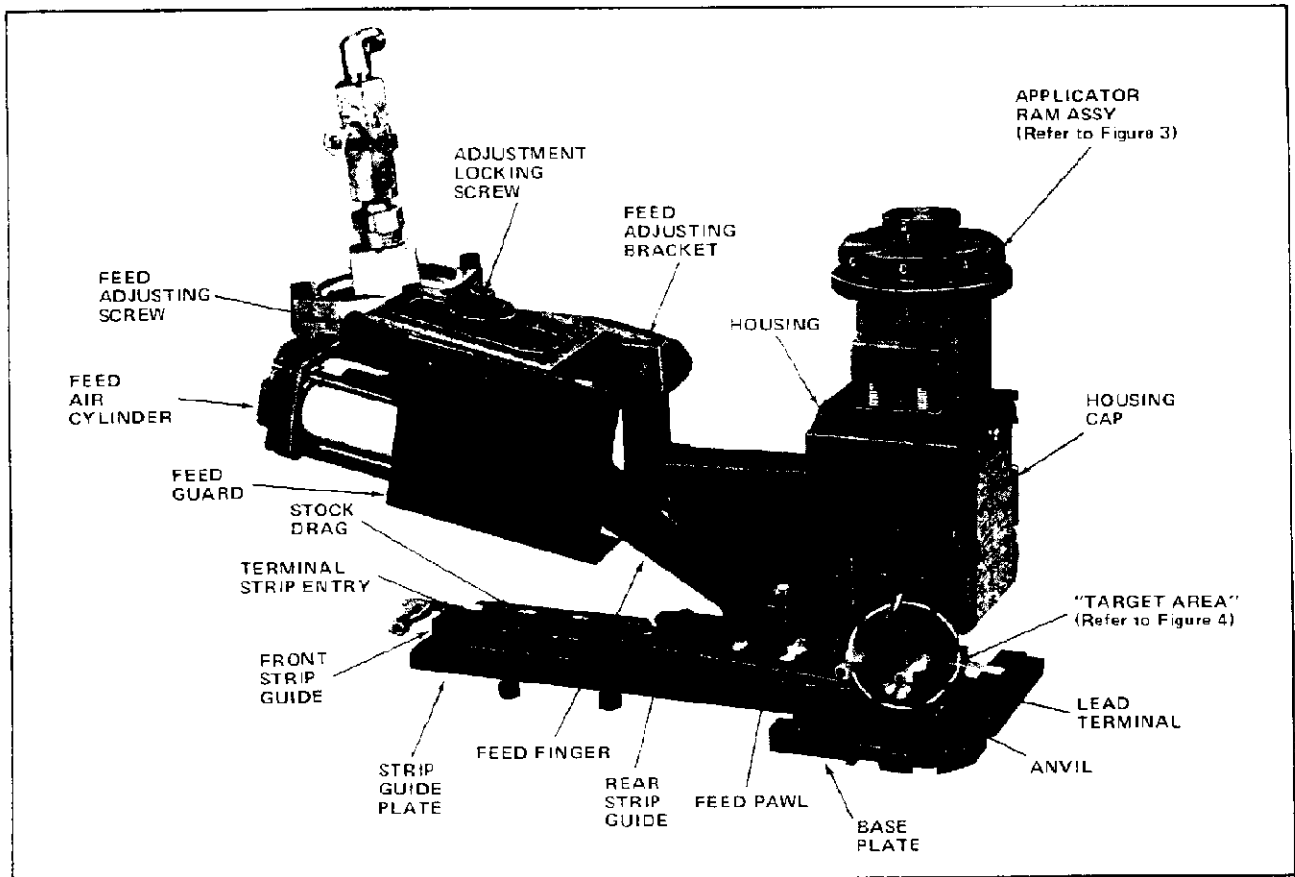

Figure 2.
The air feed mechanism is mounted on the left side of the housing. It comprises the feed air cylinder, feed adjusting bracket, feed finger, feed pawl, and related hardware (see Figure 2). The applicator used in the Model "T" Press has an elbow with a tube connected to the extension port of the feed air cylinder, and a quick-disconnect coupling to the other end for connecting to the machine. The applicator used in the AMP-O-LECTRIC Press has a quick exhaust valve with a flow control mounted on the extension port of the cylinder (see Figure 1). This is connected by a tube to the air feed valve assembly which is mounted on the side of the press. Refer to Customer Manual CM 5128 for further description.
5.2. Terminal Strip Feed Adjustment (See Figure 2)
5.6. Strip Guide Adjustment (See Figure 2)
7.2. Anvil Replacement (See Figure 2)